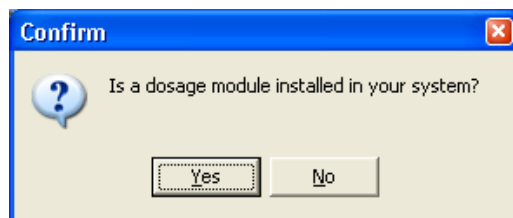

FIGURE 2-9 The Dosage Module Installed? Window
- b) In the next window that appears you will be asked whether or not a dosage module is present in your Probot. Choose the **Yes** button if there is one present or choose the **No** button if not (FIGURE 2-9).